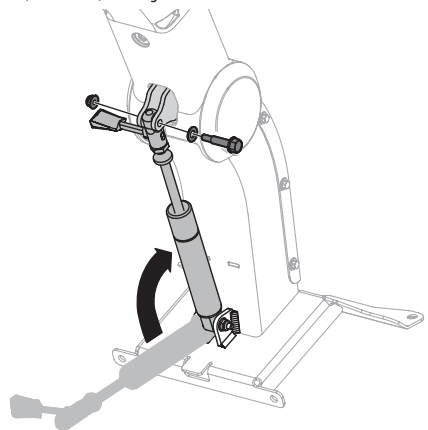

Figure 7
4. While holding steering wheel column in a raised position, use other hand to raise tilt locking cylinder, aligning holes in top of cylinder with holes in cylinder mounting plates on the underside of the steering wheel column. See Figure 7.
5. Working from right to left, install flat washer and shoulder screw through holes aligned in Step 4 and secure with hex flange lock nut. Torque the shoulder screw to 120-144 in-lbs (14-16 N-m). See Figure 7.